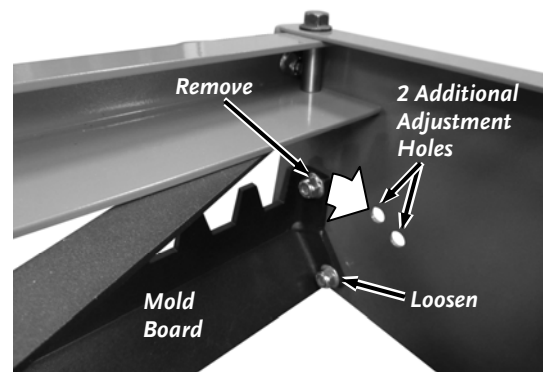

Figure 36
1. Remove the top Bolt and Locknut on both ends of the Mold Board using two 9/16" Wrenches (**Figure 36**).